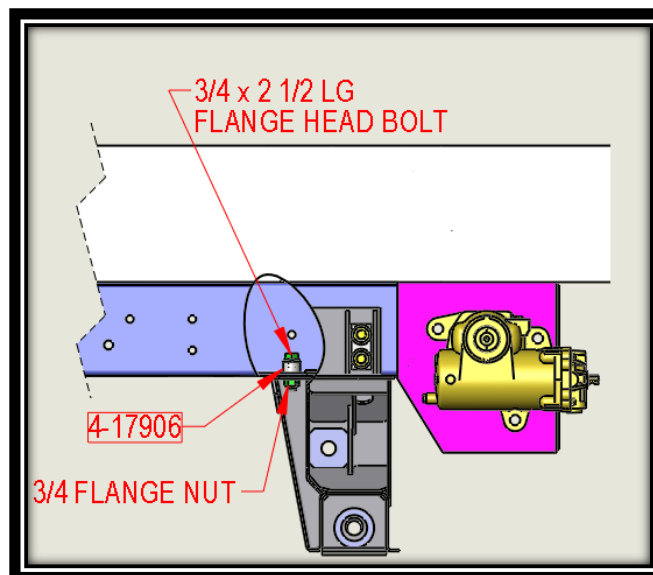

FIG. 5-2
5. Install 3/4 x 2 1/2 lg flange head bolt, spacer 4-17906, from inside of suspension mount & thru Ridewell suspension hanger. Install 3/4 flange nuts torquing inside to out, to 375 lbf-ft. (2) places Refer to FIG. 5-2